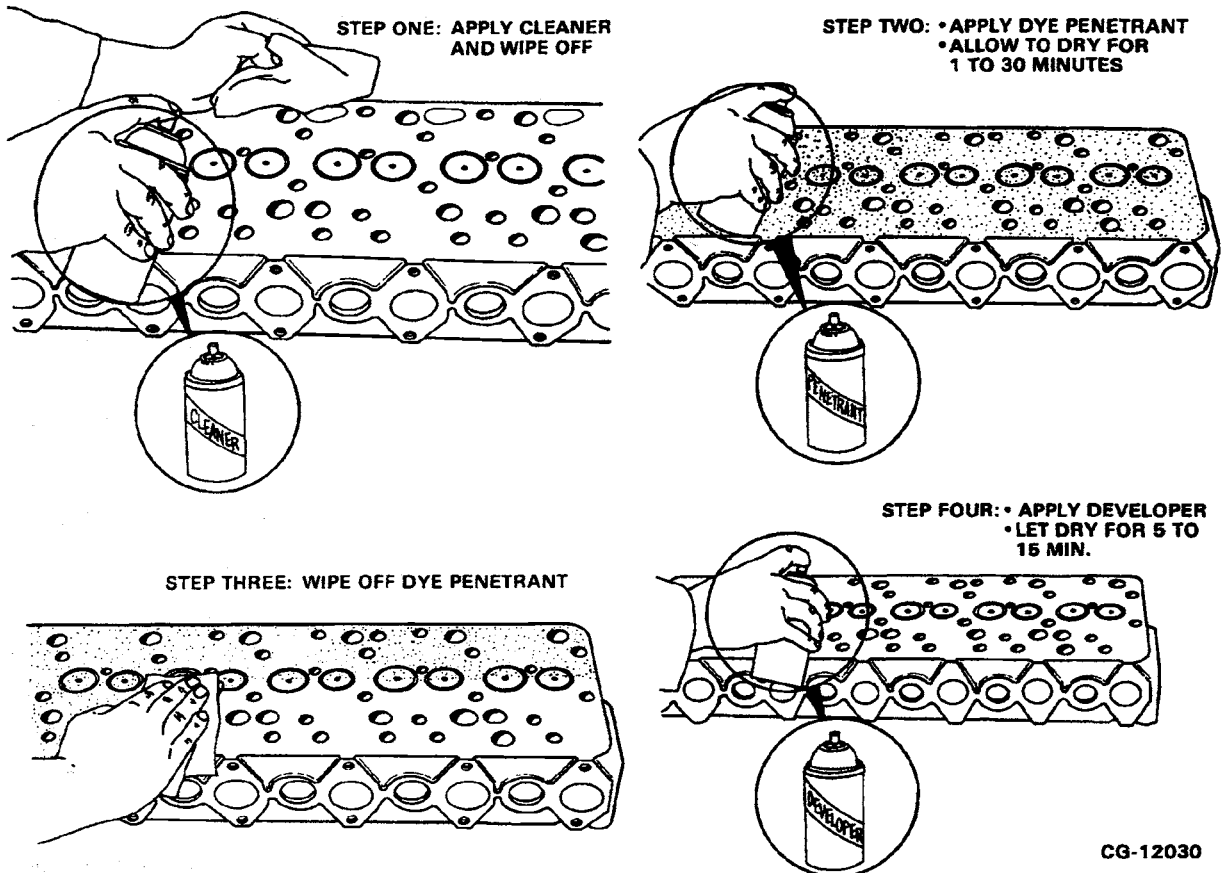

Figure 4.12. Inspect for Cracks Using Dye Penetrant Method
3. Visually inspect for cylinder head cracks using the four step dye penetrant method as follows: (Refer to Figure 4.12)